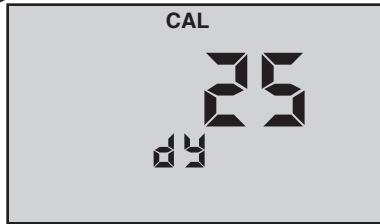

Figure 12
9. Press  $\frac{CAL}{MCLR}$  to accept the change (new day) (see Figure 12).